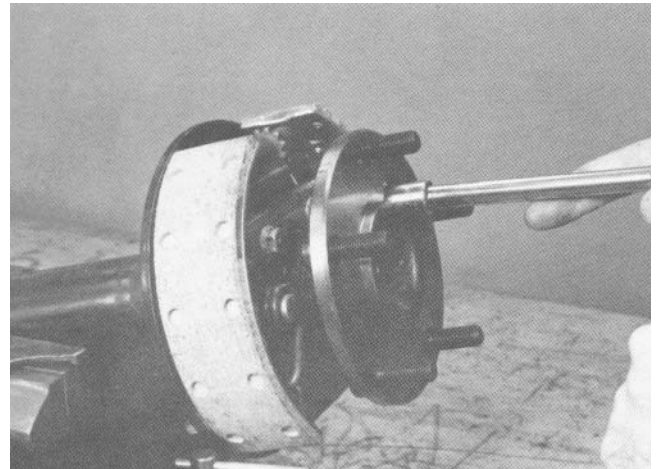

Figure 8
6. Remove the four (4) lock nuts, hardened washers and socket head screws that secure brake assembly and outer seal plate to axle housing (Fig. 8). Use the hole in the axle shaft flange to gain access to the lock nuts.